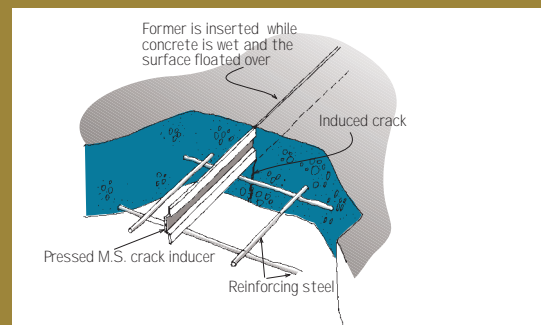

Figure 6: Crack inducer (for reinforced or unreinforced slabs)
- This entails the use of crack inducers (see Figure 6), tooled joints or early-age saws.